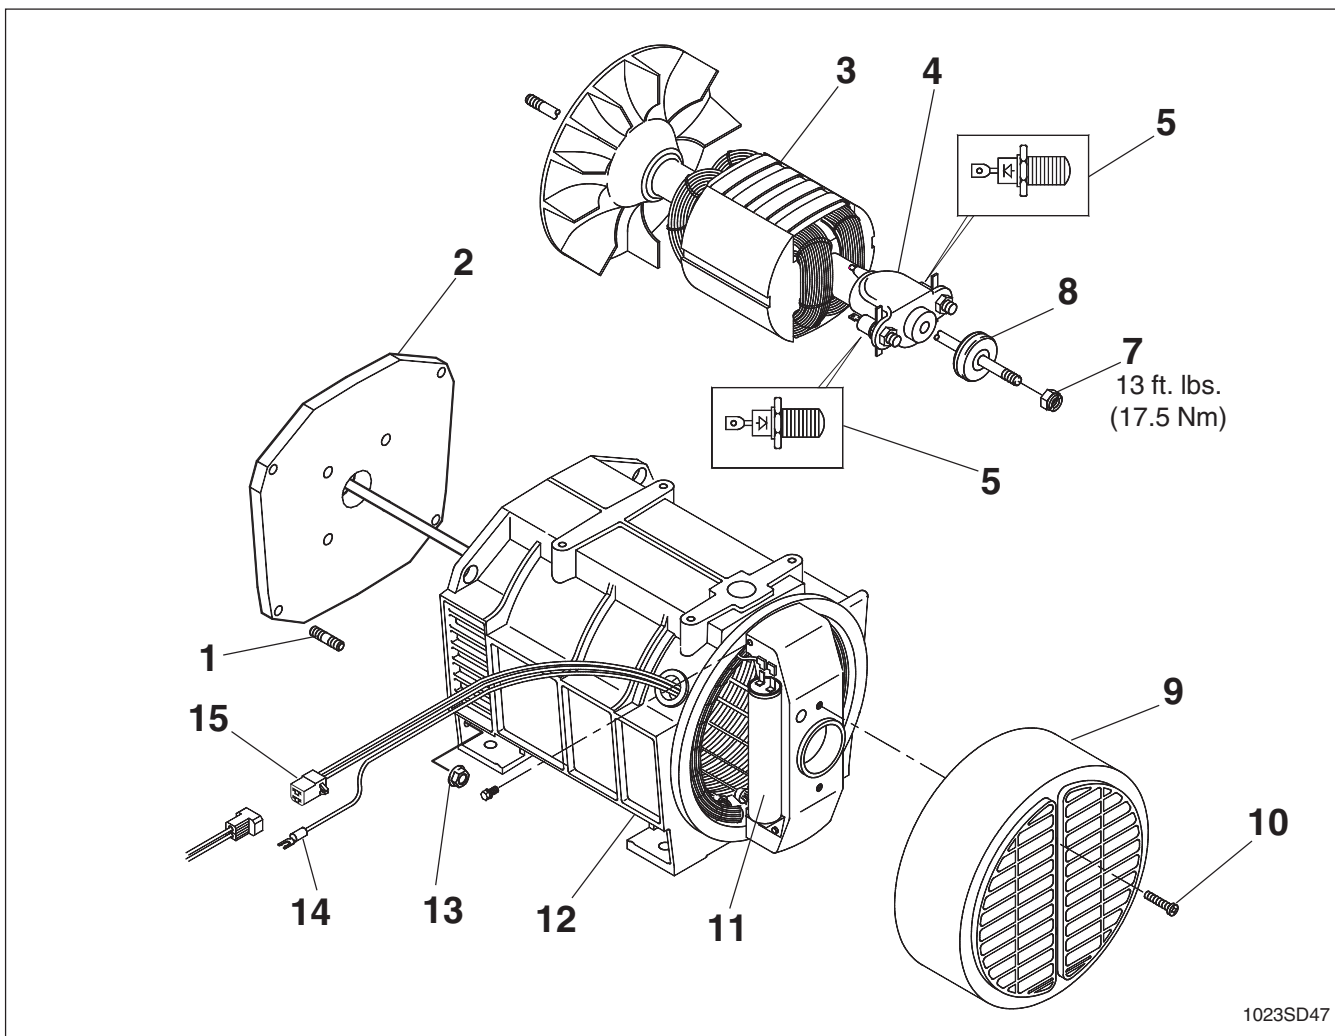

Figure 4-10. Brushless Generator
1. Remove the two end cover screws **(10)** and the end cover **(9)**. See Figure 4-10.
1. Remove the control panel, unscrew the ground wire **(14)** and unplug the stator wire **(15)** from the back of the panel. See Figure 4-10.
1. Place stator on flat surface with bearing **(8)** end up. Elevate the stator **(12)** by placing two blocks of wood on the edge of the stator frame to allow the rotor to drop. See Figure 4-10.
1. Unsolder leads from the diodes **(5)** and **(8)** and unscrew diode stud. See Figure 4-10.
1. Install diodes **(5)** to the diode bracket **(4)** assembly on the rotor, by placing the solder tags on the diode stud and tighten to the diode base. See Figure 4-10.